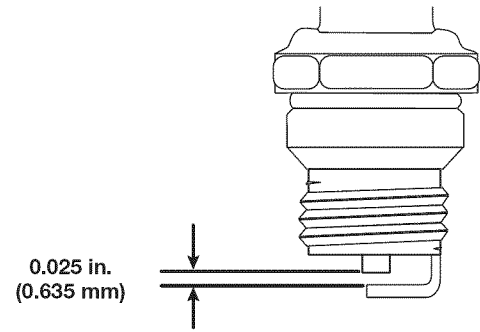

Fig. 25
4. Use a feeler gauge to set the air gap at **0.025 in. (0.635 mm)** (Fig. 25).